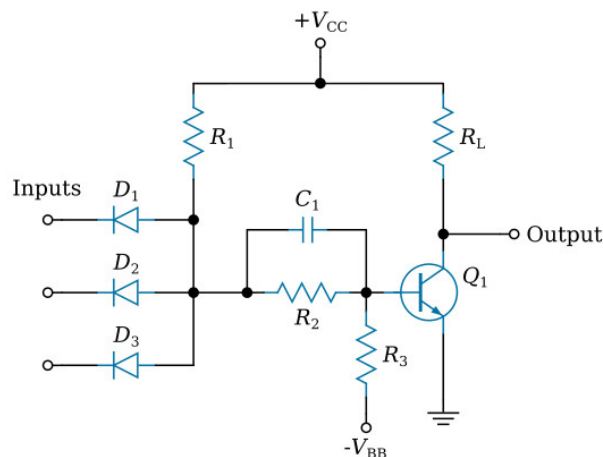

Figure 3.27: Diode transistor logic circuit of a 3 input NAND gate
3. **Diode-transistor logic-NAND gate:** The diode-transistor logic circuit of a 3-input NAND gate is shown in Figure 3.27. This is a 3-input diode transistor logic NAND gate circuit. This circuit is designed with three diodes, D1, D2 and D3 and a transistor Q1. Notice that the transistor receives its input at the base through R1. The voltage across the collector-emitter region of the transistor forms the output and receives power through RL. Capacitor 'C1' is used to give an overdrive current throughout the switching time and this decreases the switching time to some level.